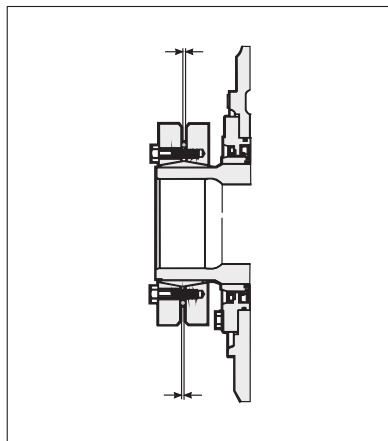

Fig. 3.14
- Slacken the shaft coupling screws gradually; see figure 3.14 and 3.14a. Each screw should be slackened only about a quarter of a turn each time. Thus tilting and jamming of the collars or thread stretching will be avoided. The screws must be slackened until the coupling ring is fully released.